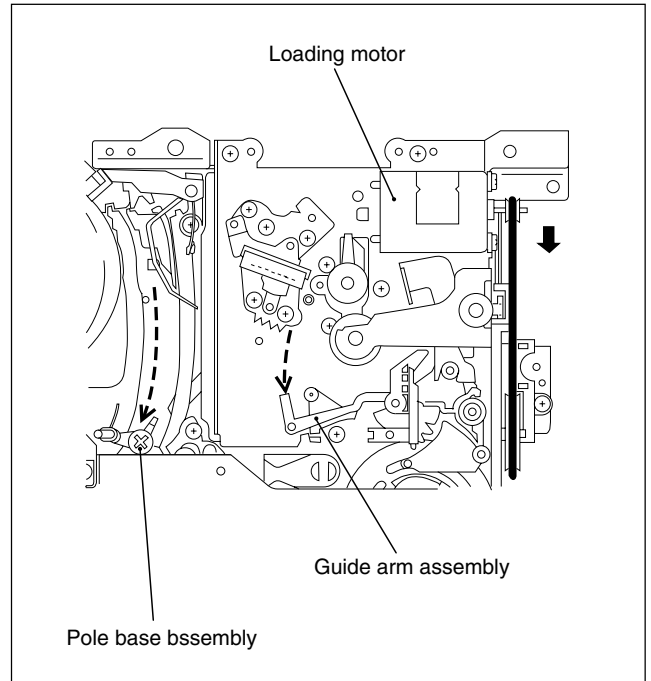

Fig. 2-1-3a
- (1) Unplug the power cord plug from the power outlet.
- (2) Refer to the disassembly procedure and perform the disassembly of the major parts before removing the Cassette housing assembly.
- (3) Unload the pole base assembly by manually turning the loading motor of the mechanism assembly toward the front. In doing so, hold the tape by the hand to keep the slack away from any grease. (See Fig.2-1-3a.)
- (4) Bring the pole base assembly and guide arm assembly to a pause when it reaches the position where it is hidden behind the cassette tape.
- (5) Remove the cassette housing assembly by holding both the slackened tape and the cassette lid.
- (6) Take up the slack of the tape into the cassette. This completes removal of the cassette tape.